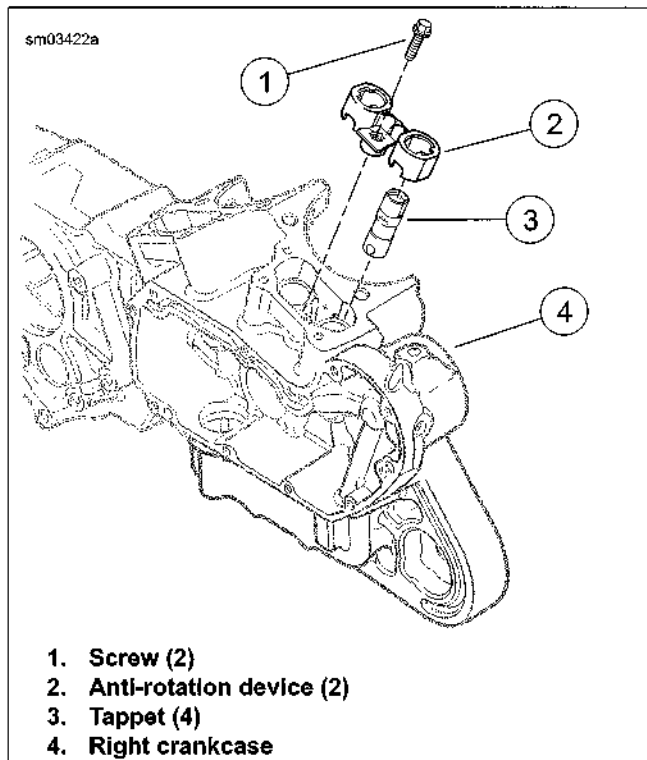

Figure 3-129. Tappet Components
1. See Figure 3-129. Rotate engine so that both tappets (3) from the cylinder being serviced will be installed on the base circle (lowest position) of the cam.